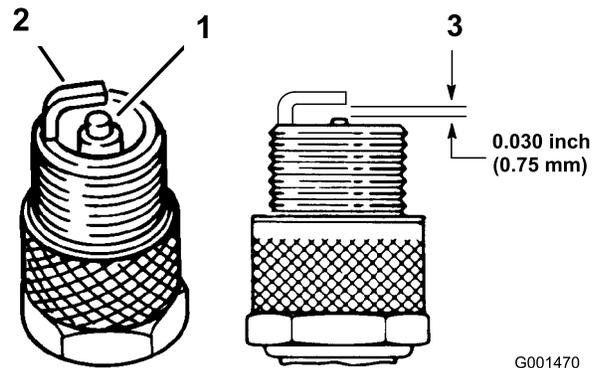

Figure 39
- Look at the center of the spark plug (Figure 39). If you see light brown or gray on the insulator, the engine is operating properly. A black coating on the insulator usually means that the air cleaner is dirty.
- Check the gap between the center and side electrodes (Figure 39).
Note: Bend the side electrode (Figure 39) if the gap is not correct.
3. Connect the wire to the spark plug (Figure 39).